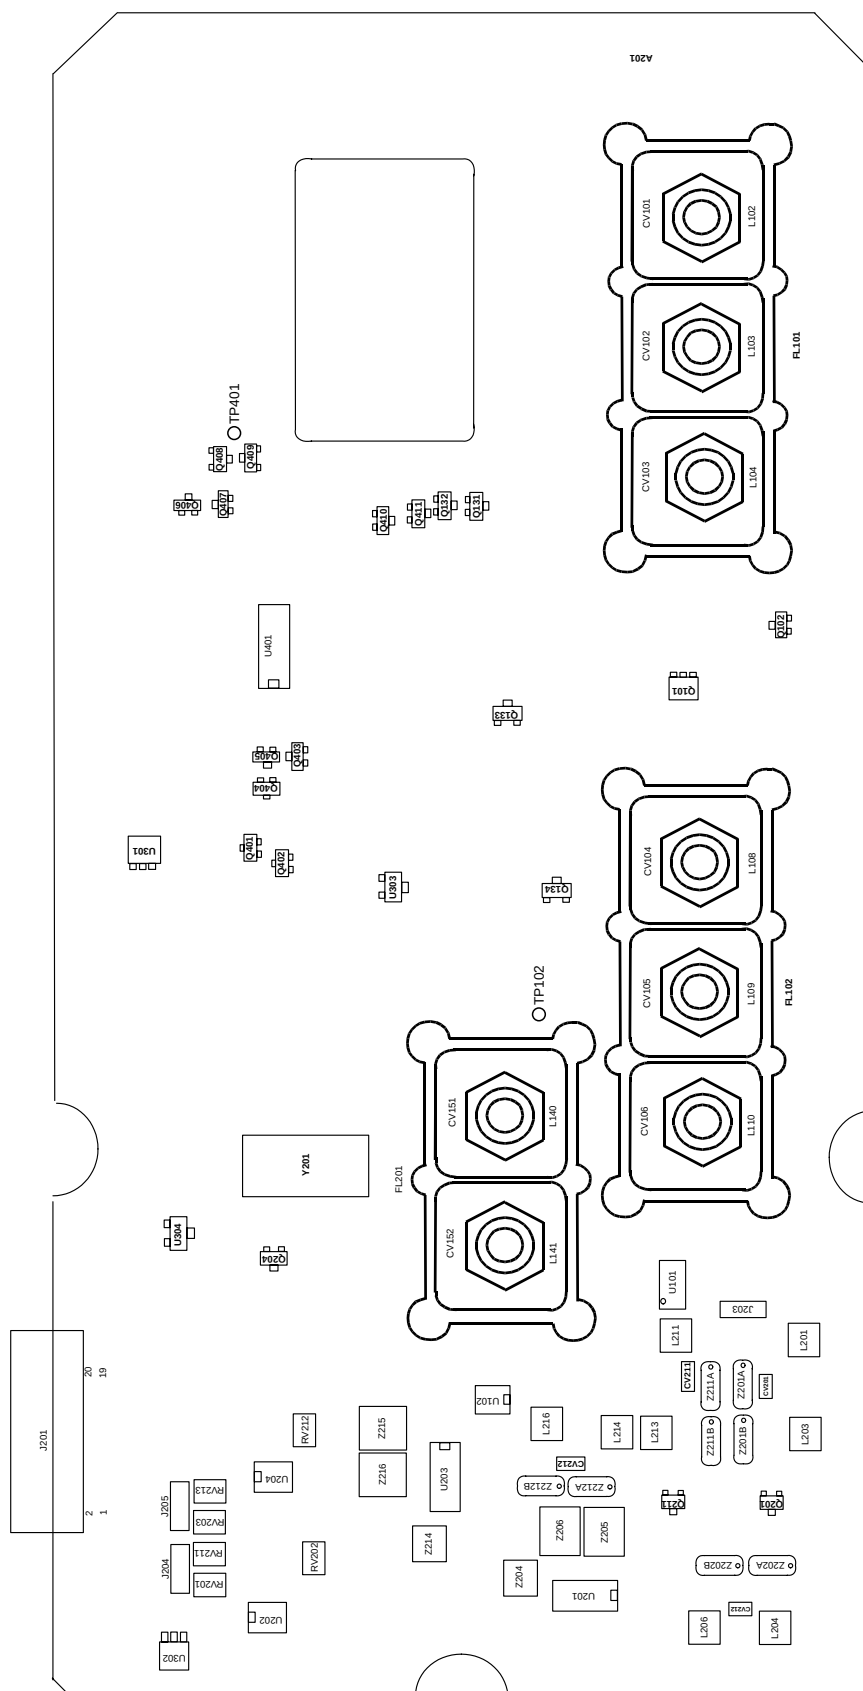

Figure 2-29 RECEIVER ALIGNMENT POINTS
4. Apply power to the Receiver by plugging the 20-pin cable from the Interface Board into J201 (see Figure 2-29).